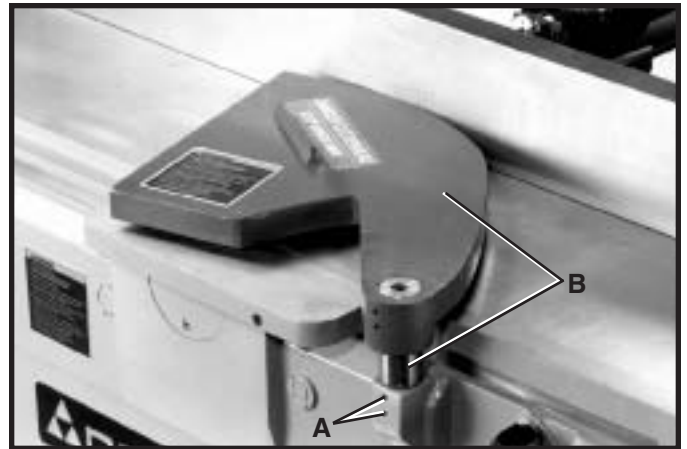

Fig. 43
3. Loosen two screws (A) Fig. 43, and remove cutterhead guard assembly.